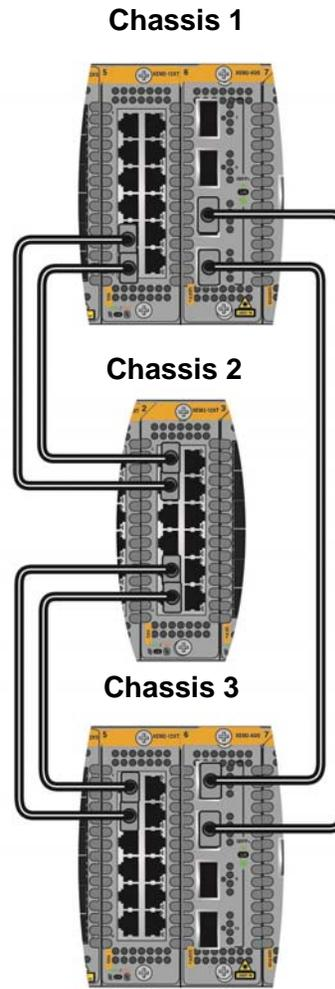

Figure 22. Unsupported Trunk with Different Ethernet Line Card Models
- ❑ A trunk cannot have ports from different line card models. The trunk for the three switches in Figure 22 is unsupported because it has ports from XEM2-4QS and XEM2-12XT Line Cards.